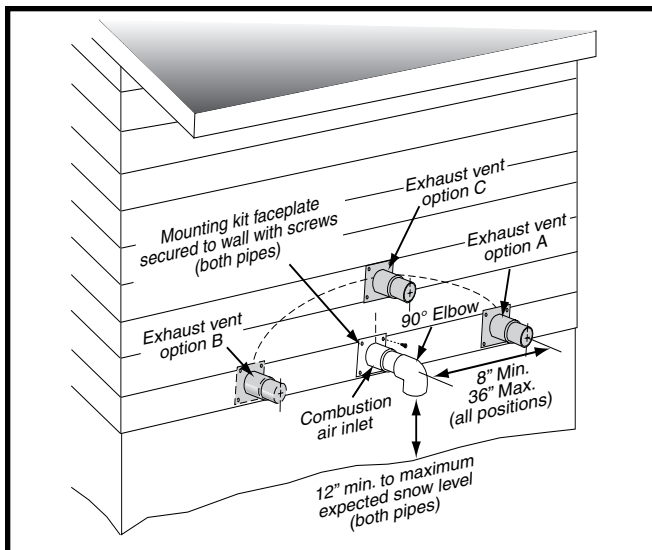
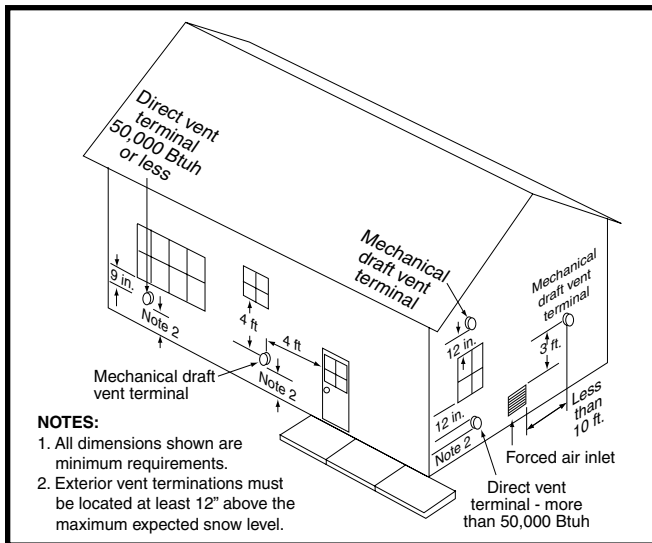
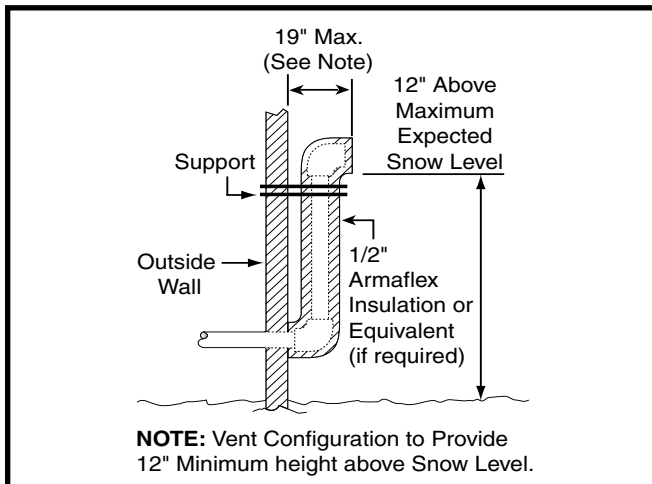
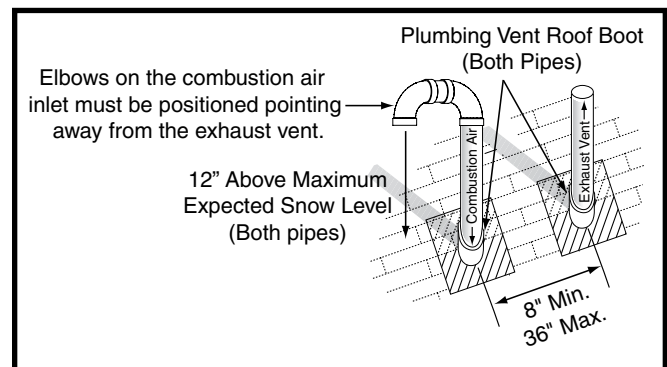

Figure 7. Inlet & Exhaust Pipe Clearances
Figure 8. Vent Locations
Figure 9. Alternate Horizontal Vent Installation
Figure 10. Vertical Vent Termination
- If a Direct Vent (2-pipe) system is used, the combustion air intake and the vent exhaust must be located in the same atmospheric pressure zone. This means both pipes must exit the building through the same portion of exterior wall or roof as shown in Figure 7, Figure 8, (page 12), Figure 9, (page 12), & Figure 10, (page 12).
- Vent and combustion air intake terminations shall be installed as depicted in Figure 7 & Figure 8 and in accordance with these instructions:
- All minimum clearances must be maintained to protect building materials from degradation by flue gases. See Figure 8.
- When the vent pipe must exit an exterior wall close to the grade or expected snow level where it is not possible to obtain clearances shown in Figure 7, a riser may be used as shown in Figure 9. Insulation is required to prevent freezing of this section of pipe. See Vent Freezing Protection Section.
Termination spacing requirements from the roof and from each other are shown in Figure 9. The roof penetration must be properly flashed and waterproofed with a plumbing roof boot or equivalent flashing. Vent and combustion air piping may be installed in an existing chimney which is not in use provided that:
- The termination clearances shown in Figure 10 are maintained.